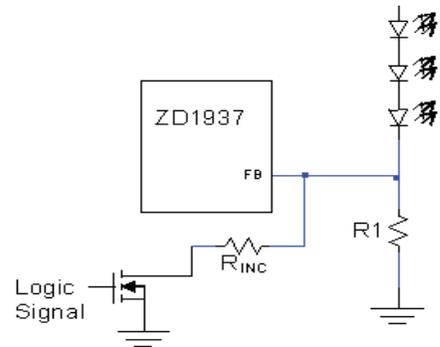

Figure 4. Dimming Control Using a Logic Signal
Adjusting the LED current in discrete steps can be accomplished with a logic signal as shown in Figure 4. The minimum LED current is set by R1, with the NMOS off. R_{INC} controls the amount the LED current increases when the NMOS is turned on. The selection of R1 and R_{INC} follows the formula (1) and Table 1.